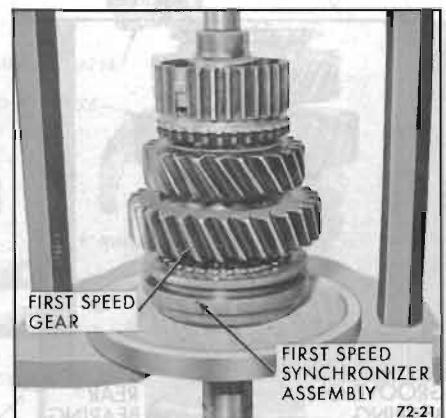

Figure 72-21—Installing First Speed Gear
- Install first speed gear and synchronizer on mainshaft. See Figure 72-21. Using ram press and Press Plate J-8609, press first speed synchronizer assembly (with identification ring toward rear of transmission) onto mainshaft. Install retaining snap ring.